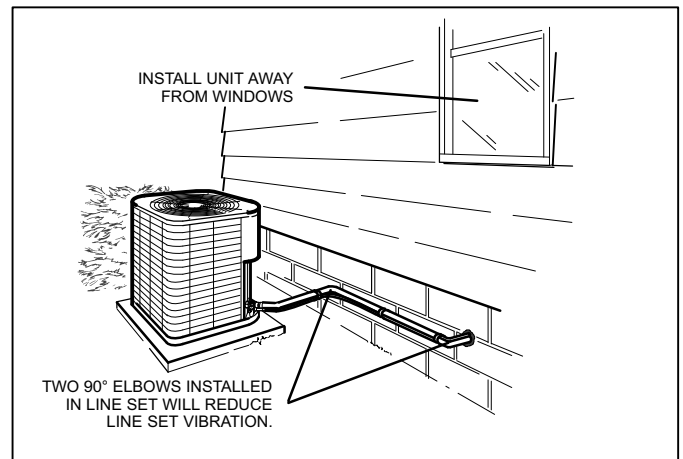

Figure 8. Outside Unit Placement
- When possible, do not install the unit directly outside a window. Glass has a very high level of sound transmission. For proper placement of unit in relation to a window see the provided illustration in Figure 8.